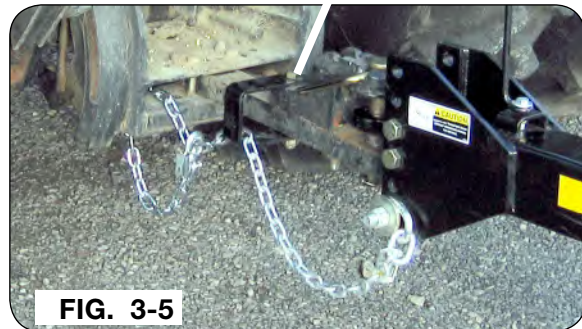
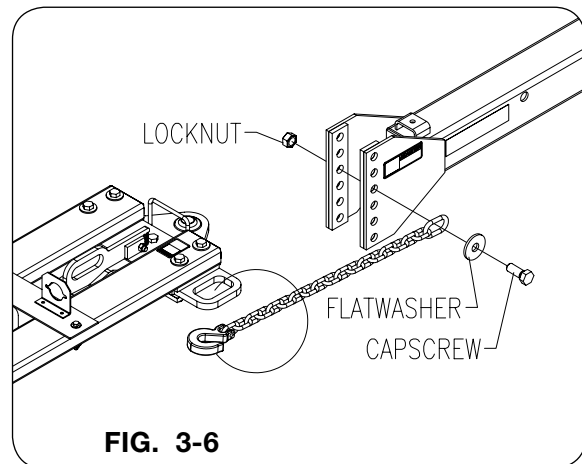

FIG. 3-5
FIG. 3-6
FIG. 3-5 shown with hook-up between tractor and Rolling Harrow implement. Always use intermediate support when connecting the implement directly to a tractor. DO NOT use the intermediate support as the chain attaching point. FIG. 3-6 shows how the transport chain must be installed between primary tillage tool and ROLLING HARROW implement.
- FIG. 3-6 is a typical rear hitch representation. Actual rear hitch may vary.